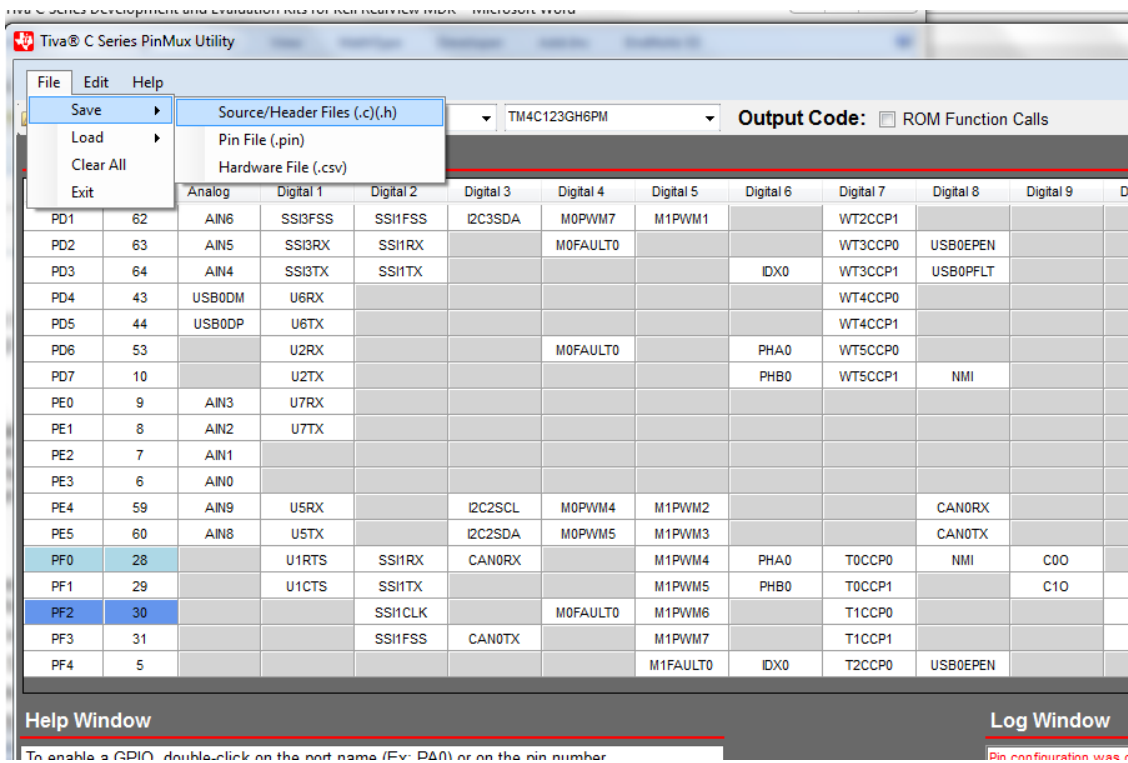
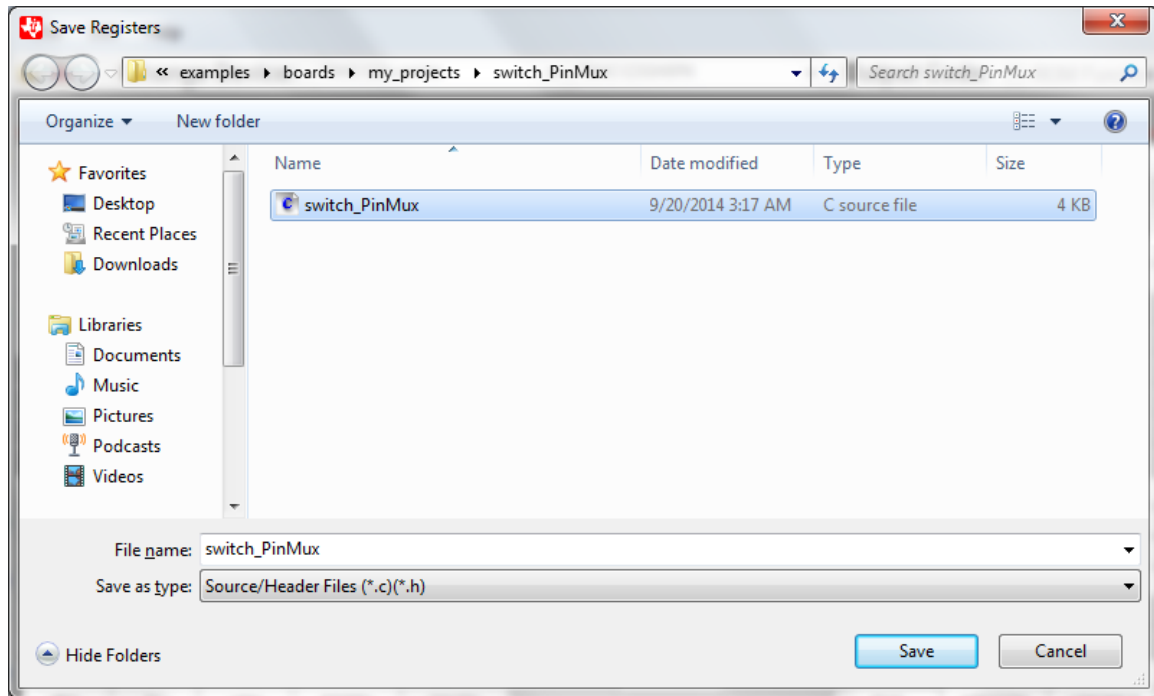

Figure 7
Figure 8
7. To generate the port initialization code, select File->Save->Source/Header File (.c)(.h) (see Figure 7). A “Save Registers” window will pop up. You then need to choose the directory you want to save the generated files and name the files. In this example, we name files as *switch_PinMux.c* and *switch_PinMux.h*, and save the files in the *switch_PinMux* project folder (see Figure 8).